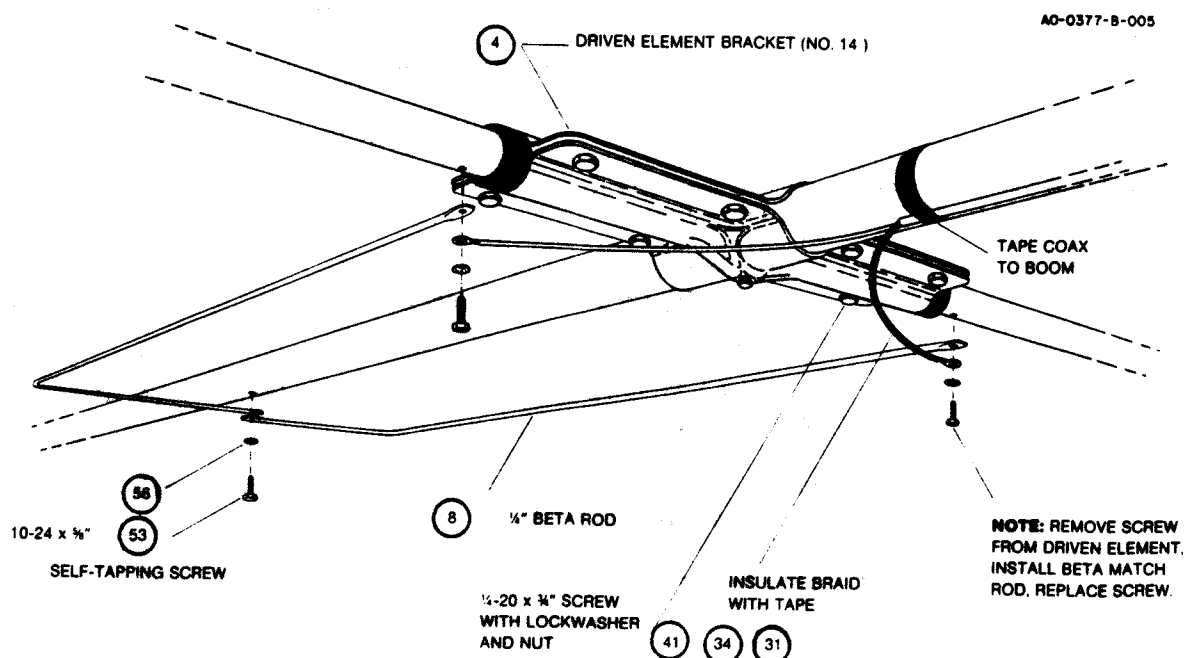

Figure 5. Beta Match
() Select the 1/4" Beta rods. Attach the Beta Match to the boom as shown in Figure 5. Loosely attach the opposite ends of the Beta rods to the hex head screws in the Driven Element. Do not tighten these screws at this time, the feedline will attach to this point in a later step.
- () Wind an RF Choke as shown in Figure 5. The choke must consist of 12 turns of RG-8/u coaxial cable wound with 11" diameter. Allow enough coax at the end to reach from the boom-to-mast bracket to the Driven Element. Strip the end of the RF Choke as shown in Figure 8. Attach the choke to the Driven Element and the Beta Match as shown in Figure 5. It is recommended that you use solder lugs (not supplied) as shown in Figure 5.